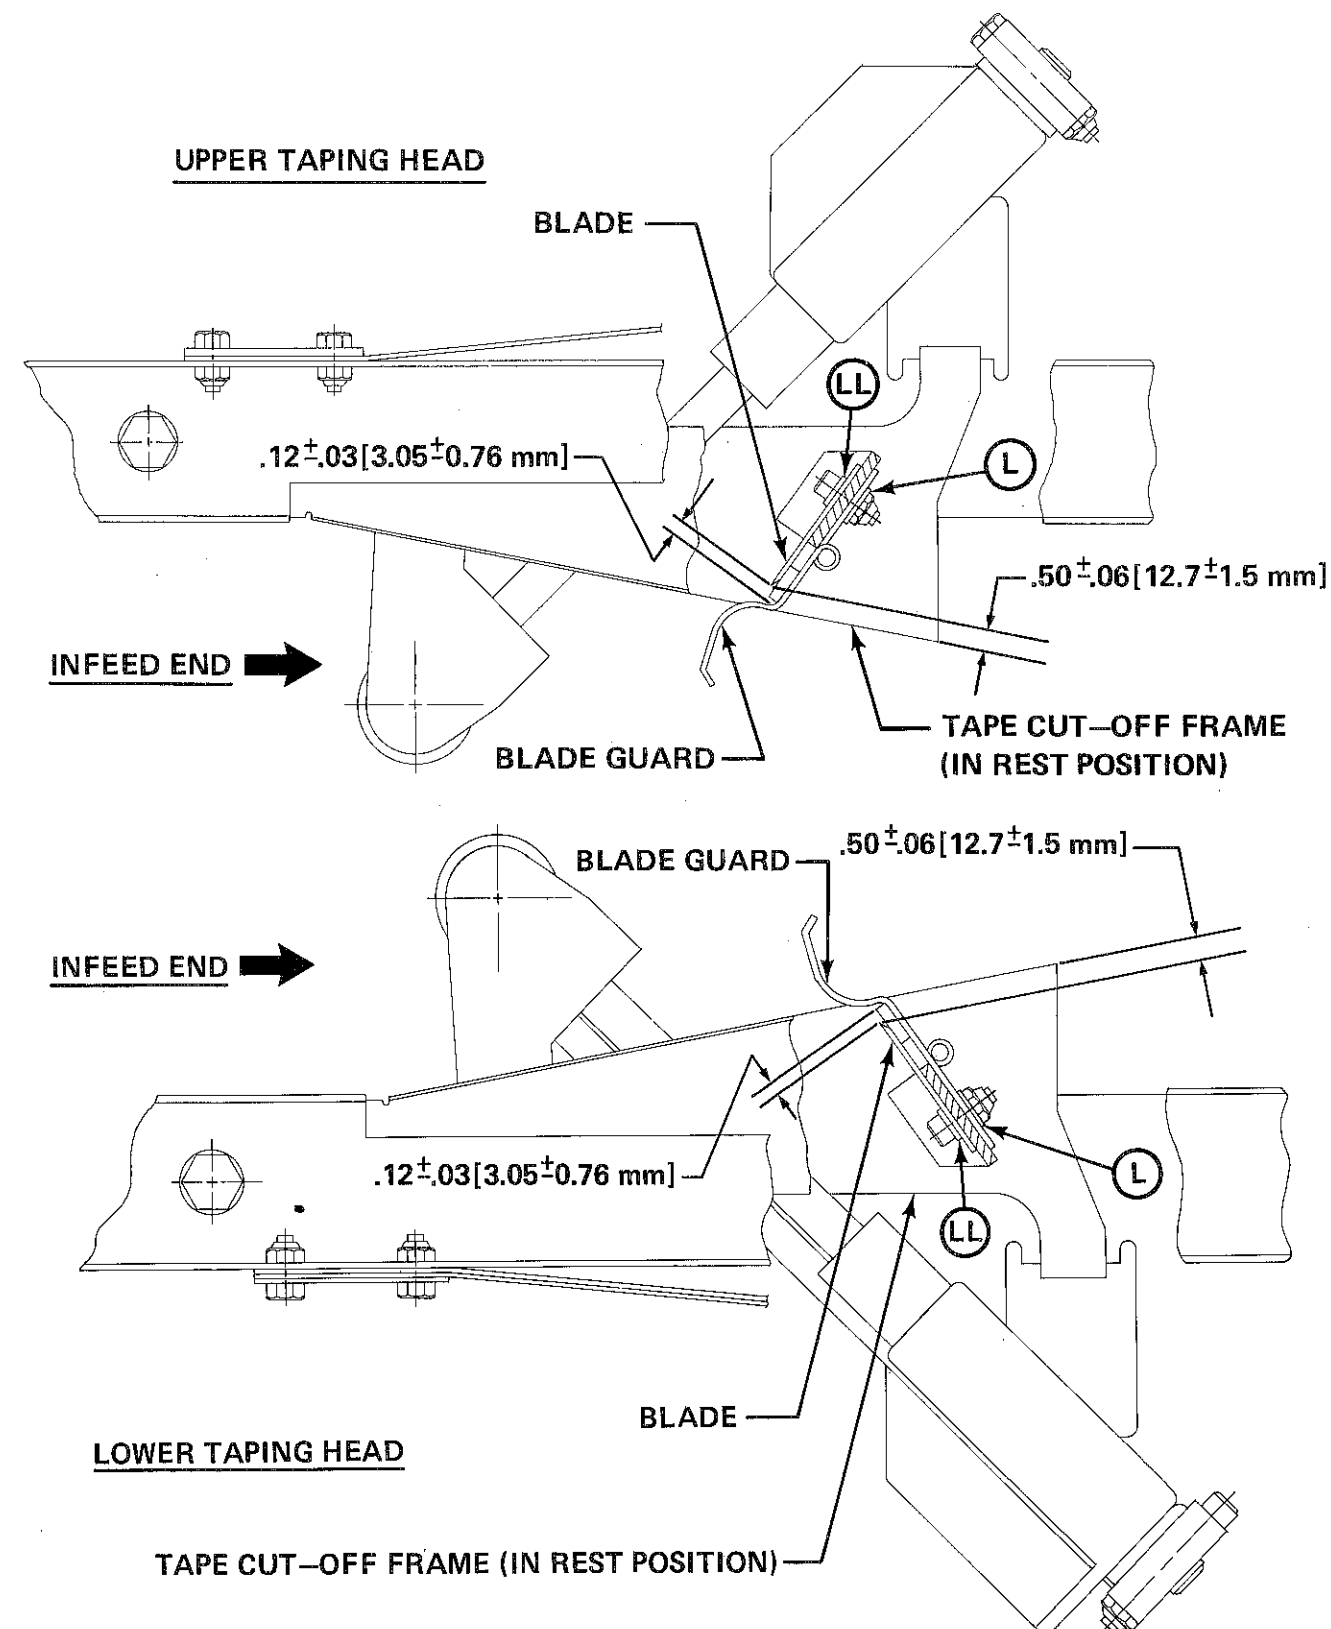

FIGURE 15 - UPPER AND LOWER CUT-OFF ADJUSTMENT - RIGHT SIDE VIEW
Taping Head Cut-off Adjustment - Refer to Figure 15.
BLADE REPLACEMENT: (Refer to Figure 15)
2. Position the new blade with the beveled side against the blade holder as shown in Figure 15. Assemble the blade screws with one washer (L) next to the nut and one washer (LL) next to the screw head as shown.